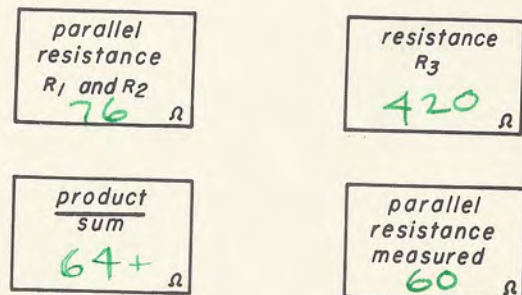

Fig. 8-18
Note When three resistors are connected in parallel, the total resistance may be calculated by using the product-over-the-sum method. Just do the work in steps. For example, to find the total resistance of R_1 , R_2 , and R_3 in parallel, we may first calculate the resistance of two of them in parallel and use this calculated value in parallel with the third resistor. You have already calculated the resistance of R_1 and R_2 in parallel, so record this value in the first box of Fig. 8-18.
Step 2. Record, in box 2 of Fig. 8-18, the measured value of resistance of R_3 as found in Experiment 8-3.
Handwritten calculations for Fig. 8-18:
second box (R_3), using the product-over-the-sum method. Record your answer in the third box of Fig. 8-18. With your ohmmeter, measure the resistance of R_1 in parallel with R_2 and R_3 , by placing one prod on one end of R_1 and the other prod on the other end of R_1 . This measurement might just as easily be made across R_2 or R_3 ; the resistance is the same. Record this value in the fourth box of Fig. 8-18. The resistance value in the third box should equal that of the fourth box. If there is a great difference between these values, check your calculation.